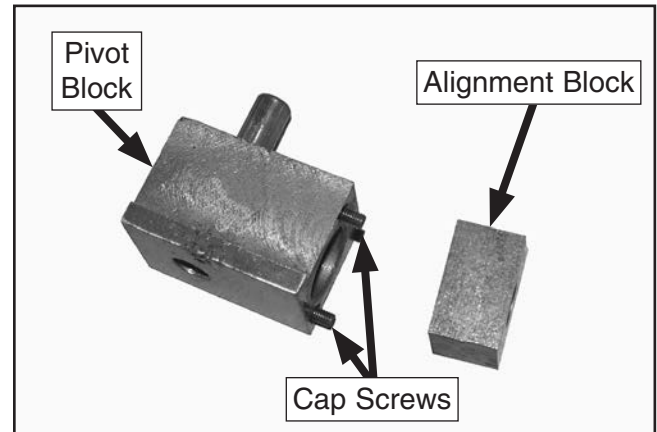

Figure 13. Pivot and alignment blocks separated.
19. Loosen the (2) cap screws on the block assembly you removed from the body in **Step 12**, then separate the pivot and alignment blocks, as shown in **Figure 13**.